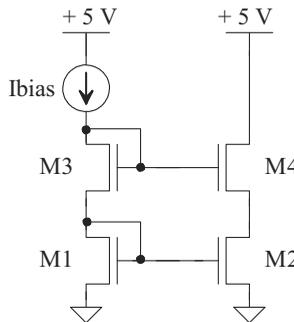

Figure 9.42 Schematic for Problem 9.7.
- 9.7 Explain qualitatively what happens to V_{GS4} and V_{DS4} in Fig. 9.42 as the bias current is increased.